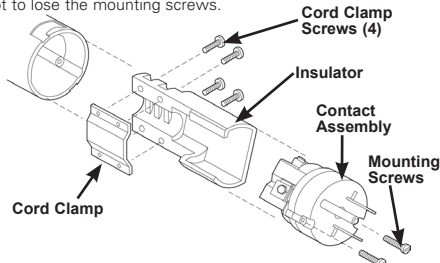

Figure 1
1. Loosen two mounting screws (#4-40 x 5/8" long) in plug face but do not remove all the way to maintain captive feature. Remove contact assembly, insulator and cord strain relief clamp. Note orientation of insulator before complete removal. (See Figure 1.) Be careful not to lose the mounting screws.